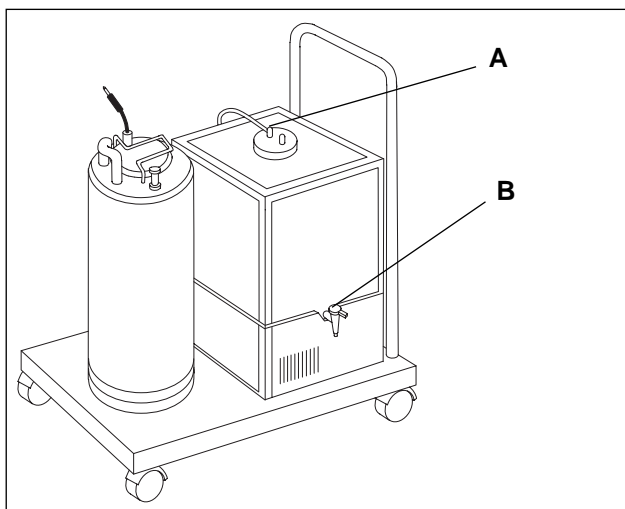

Figure 5.1
1. Disconnect waste line at container (A) and remove container from cart (Figure 5.1).